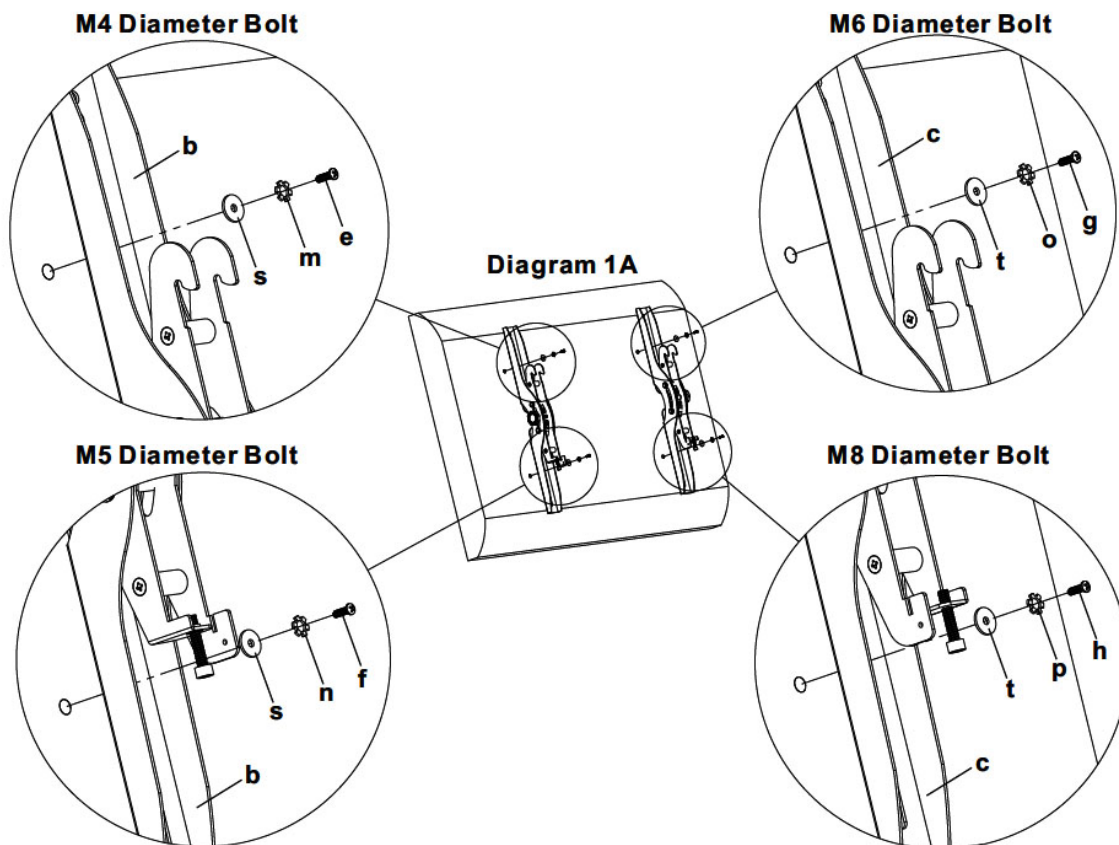

Figure 4
4. Thread the bolts into the TV using the correct lock washer (m, n, o, p) and washer (s, t). See Figure 4.